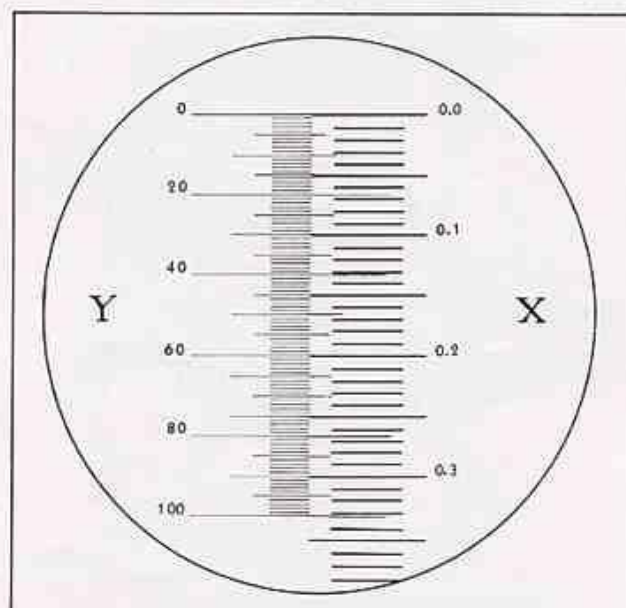

Figure 8. Calibration of Micrometer Discs
exactly with one of the divisions of the eyepiece micrometer. (See figure 8.) The true distance (X) seen on the stage micrometer, which corresponds to the number of divisions (Y) of the eyepiece micrometer disc, is then read and dividing this true distance by the number of divisions of the eyepiece micrometer, it is possible to find the distance each division subtends ($C = X/Y$). The number of divisions covered by the specimen multiplied by the calibration constant (C) gives the length of the specimen.